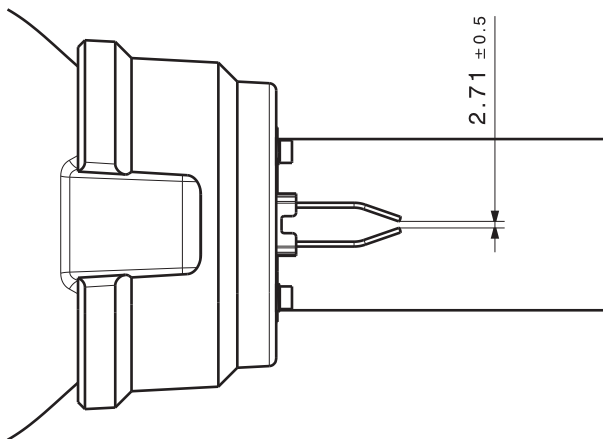

Fig. 505 Distance between ignition electrodes
3. Check the distance between the electrodes (see Fig. 505).